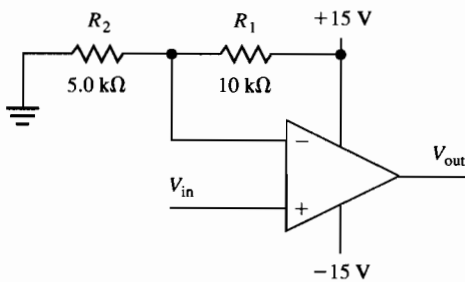

Figure C-21-2
12. Determine the reference voltage for the comparator shown in Figure C-21-2.